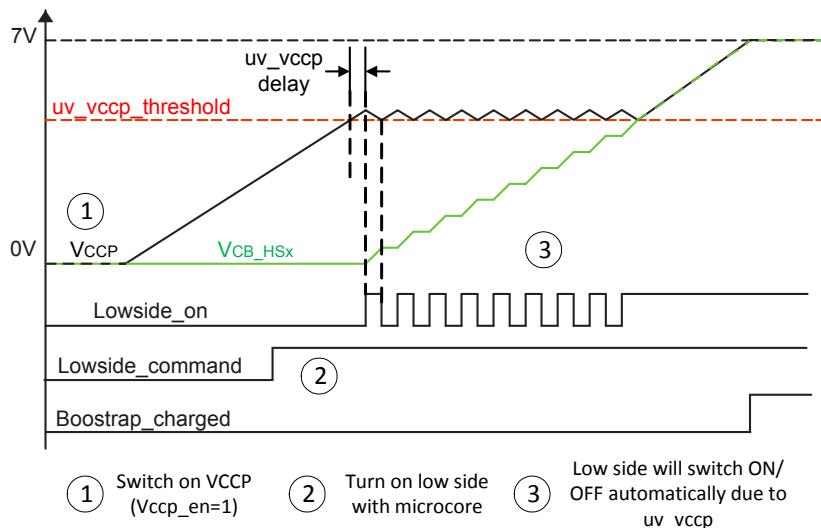

Figure 23. Power-up: VCCP and bootstrap capacitors - before VCCP fully charged
2. Switch on the LS MOSFET(s) as soon as possible after the  $V_{CCP}$  voltage is above the  $V_{CCP\_UV}$  threshold. This causes the  $V_{CCP}$  voltage to cross the  $V_{CCP\_UV}$  threshold again and thereby the LS MOSFET(s) and the bootstrap diode are switched off again. The  $V_{CCP}$  voltage recovers from undervoltage and after the delay min. of 16  $\mu$ s, the LS MOSFET(s) and the bootstrap diode are switched on again. This pulsed charging of the bootstrap capacitors with a frequency of below 50 kHz continues until the voltage of the bootstrap capacitors is above the  $V_{CCP\_UV}$  threshold. Figure 23 shows this strategy.